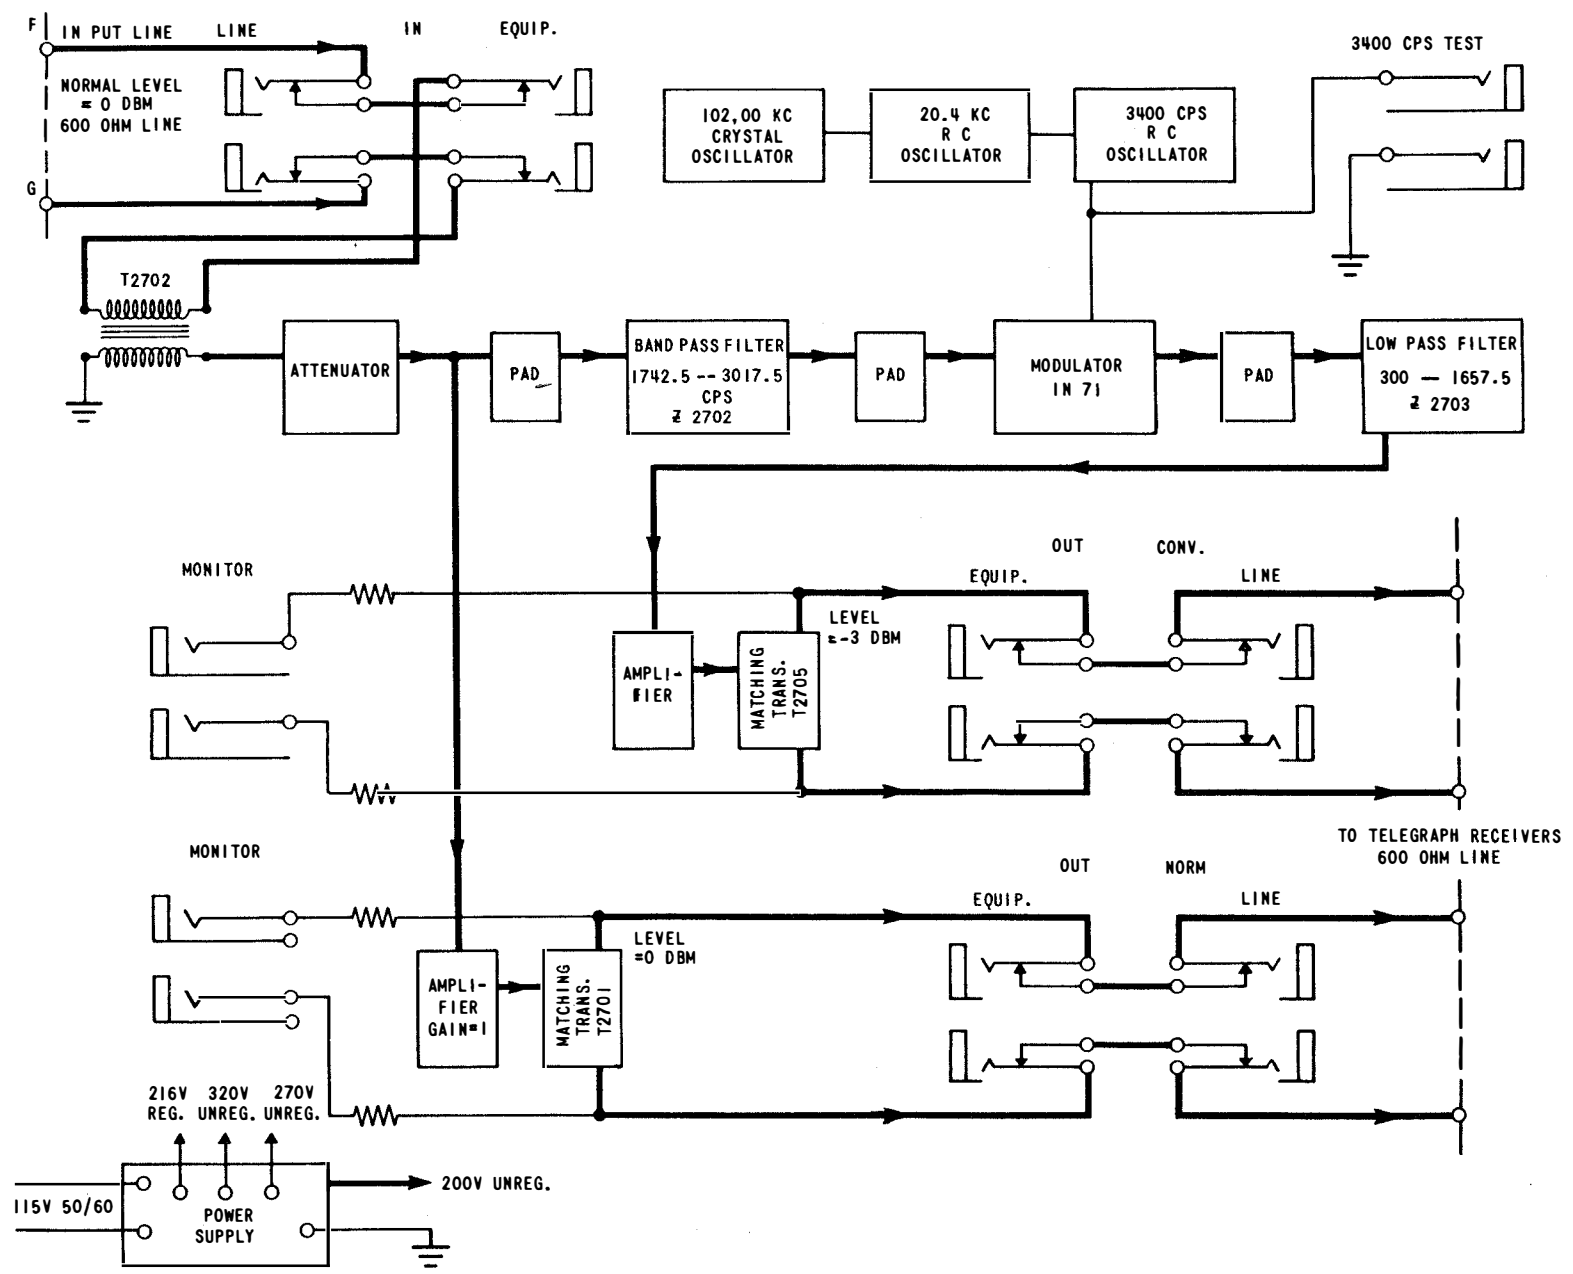

Figure 2-21. Block Diagram of Electronic Frequency Converter CV-244A/FCC-3
a. **BLOCK DIAGRAM.** - The block diagram of figure 2-21 shows the principal circuits of the Electronic Frequency Converter CV-244A/FCC-3. This equipment accepts telegraph carrier signals from the Electronic Frequency Converter CV-243A/FCC-3 in the frequency range of 382.5 to 3315 cycles per second, separates the frequency band of 1742.5 to 3017.5 cycles, shifts it from 382.5 to 1657.5 cycles, and transmits it
to a set of telegraph receivers. A line amplifier with an overall gain of one, amplifies the complete audio frequency range and transmits the 382.5 to 1657.5 cycle band of the input signal to another set of telegraph receivers. As shown in the block diagram of figure 2-21, the incoming signal from the line is transformed with a 1:1 isolation transformer and attenuated with a 20-step variable ATTENUATOR of 2 db steps. The output of the attenuator is applied to the line amplifier for normal channels and also to the band-pass filter through a 3 db T-pad. The purpose of this is to maintain a proper match for the filter when the variable attenuator is set at zero. Signal frequencies in the range of 1742.5 to 3017.5 cycles are passed by the filter Z2702, whose output is matched with a T-pad to the 1N71 modulator. Since the modulator bridge is supplied with the 3400 cycle voltage output of the oscillator and frequency divider circuits, the output voltage of the modulator contains both the sum and difference frequencies between the signal and 3400 cycle frequencies. Signal frequencies up to 1657.5 cps only are passed by the low pass filter Z2703 and are then applied to the input of a feedback amplifier. This amplifier has a voltage gain of about 34 db from a 600 ohm input to a 600 ohm output. This gain compensates for the attenuation in the filters, pads, and modulator bridge, thereby making an overall gain of one for a properly operating equipment.